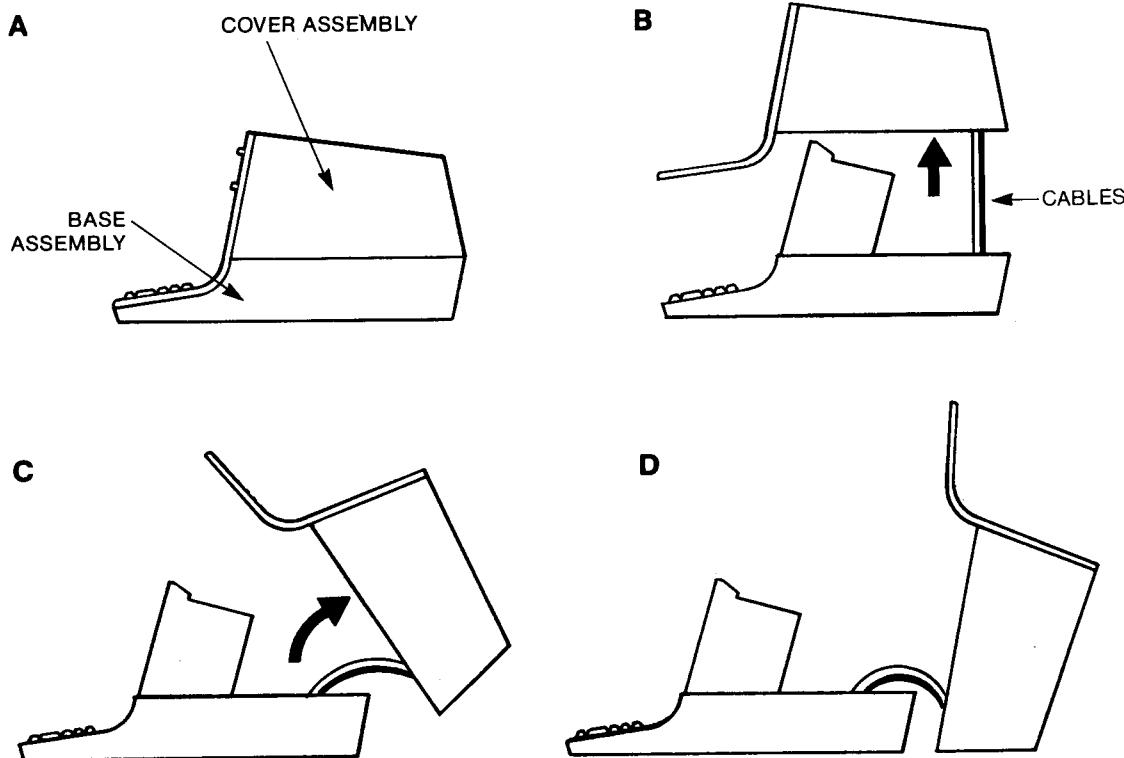

Figure 7-6
- 4) Clear away the area behind the ADVANTAGE cabinet, to provide space for the Cover Assembly (see Figure 7-6).
- 5) Carefully lift the Cover Assembly straight up to the position shown in Figure 7-6.
- 6) Carefully rotate the Cover Assembly toward the rear, and allow it to rest on its rear surface, with the CRT screen facing up (Figure 7-6).
- 6) Remove the Main PC Board mounting screws. Unscrew the retaining screws located along the front edge of the main PC board (see Figure 7-6).